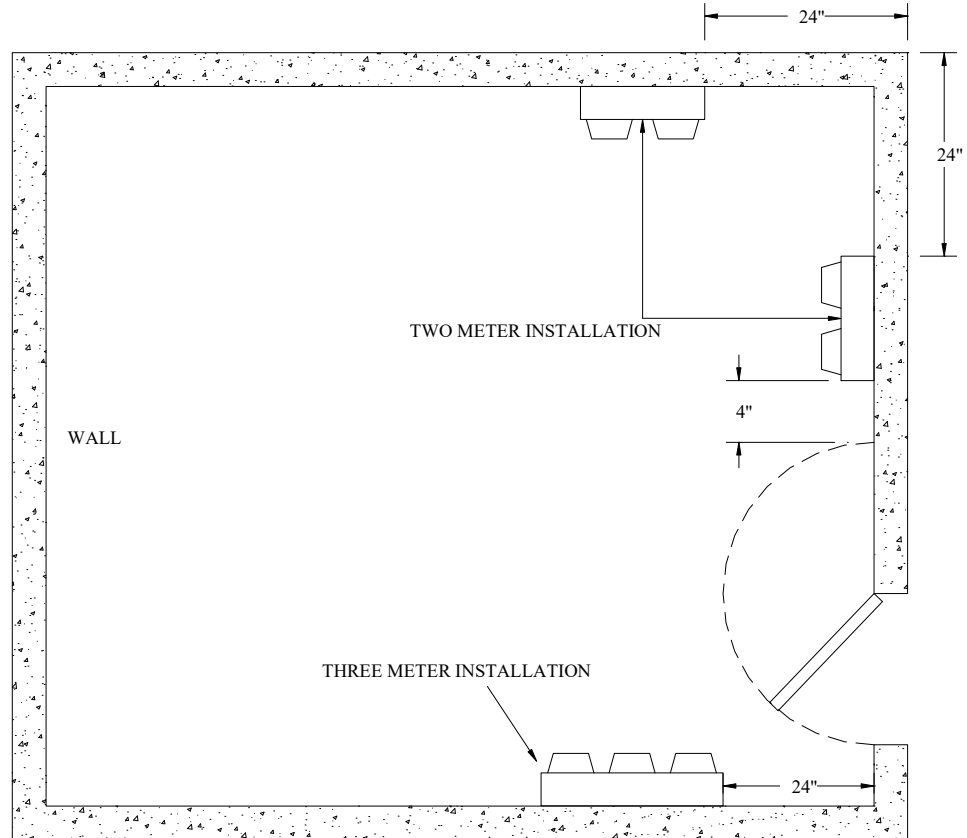

Figure 4-1
4.0 Multiple meter arrangements for apartment buildings and commercial shopping centers can be located indoors with advance approval from MU. Figure 4-1 and Table 4-1 show the requirements for these types of installations.